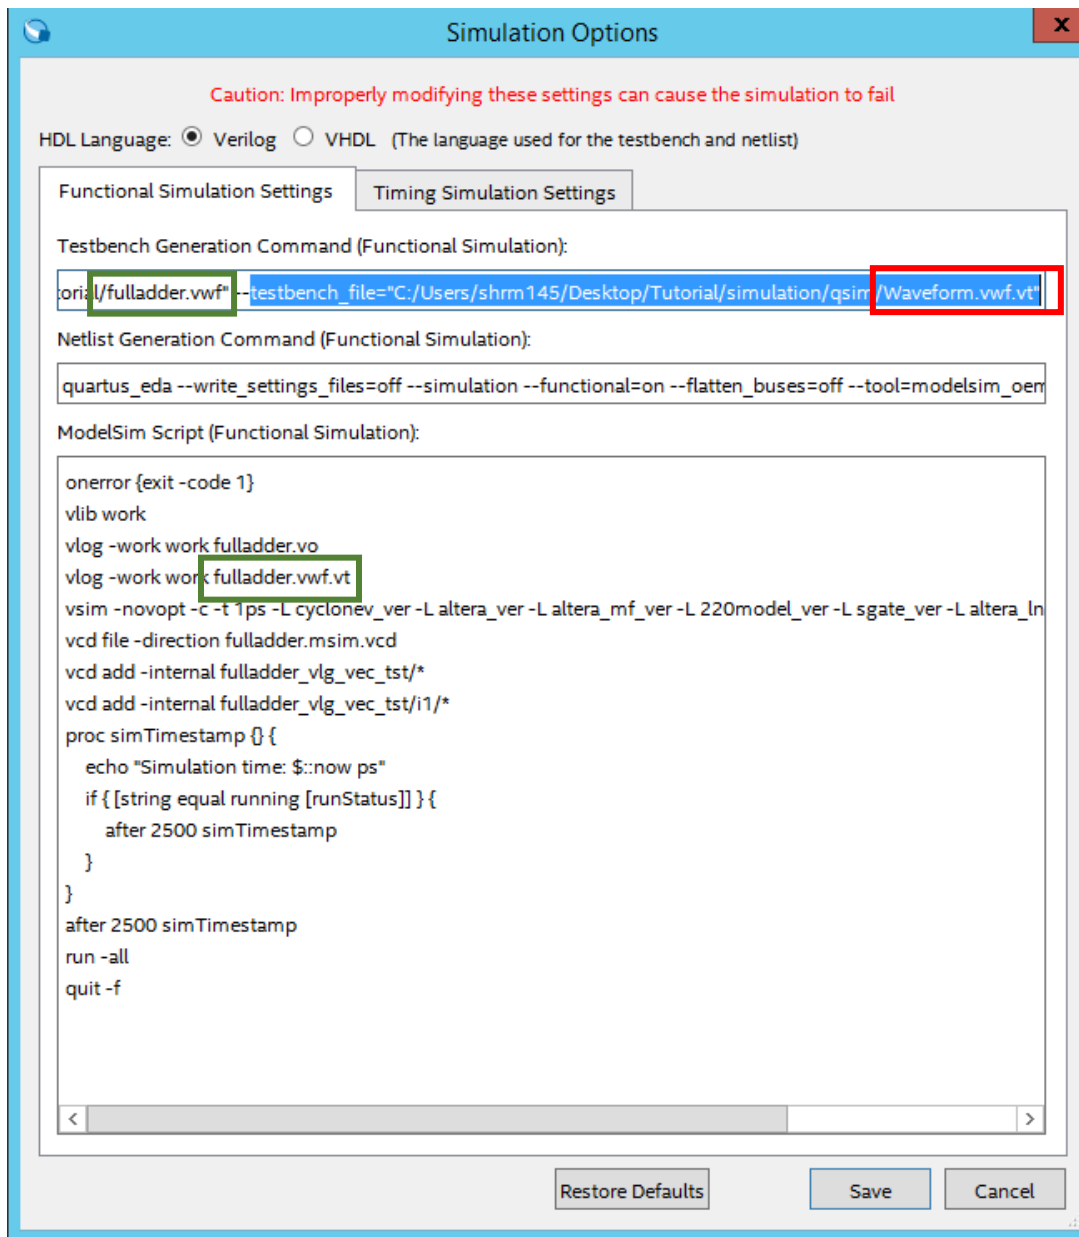

Fig 2c.
- c. In the **Testbench Generation Command (Functional Simulation)**, continue scrolling right until you reach the blue highlighted text, which dictates the file for the “testbench-file”. Again, change this from **Waveform.vwf** to **fulladder.vwf** (See Fig 2c.)